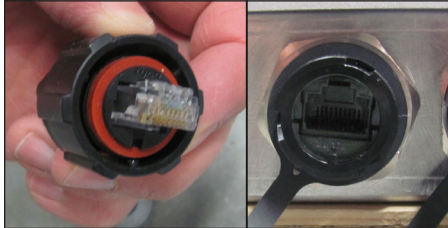
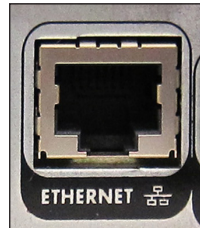

Figure 7: Display-Mount Network Input
Figure 8: Rack-Mount Network Input
1. Connect an RJ45 network cable to the network port on the processor. Refer to **Figure 7** and **Figure 8**.